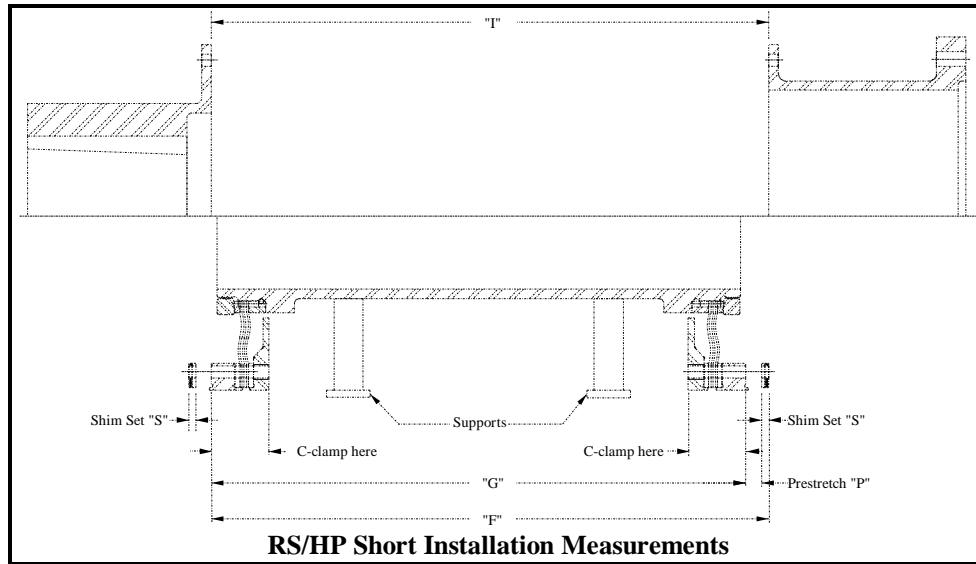

Figure 4-9
- 4.4.3.1 Measure and record, on the worksheet provided in Paragraph 4.4.5, the installation length "I" (distance between mounted flange faces) at four (4) places approximately 90° apart (see Figure 4-9).
- 4.4.3.2 Assemble the spacer rings, as shown on the Ameridrives Sales Drawing, onto both ends of the diaphragm pack sub-assembly taking care to re-align the matchmarks and end identification letters. Install a minimum of four (4) bolts approximately 90° apart through each spacer ring and tighten the bolts evenly in a crises- cross pattern to seat the pilots. On some size couplings the grip length of the bolts is too long to allow seating of the pilots in this manner. When this condition exists, a spacer plate, washers, shorter bolts, or C-clamps (not supplied) may be required to seat the pilots. Support as shown in Figure 4-9).
- 4.4.3.3 Measure and record, on the worksheet in Paragraph 4.4.5, the coupling free length "G" (distance between spacer ring outer flange faces) at four (4) places approximately 90° apart. It is recommended that C-clamps be used to compress the diaphragm pack at the location the measurements are being taken (see Figure 4-9).